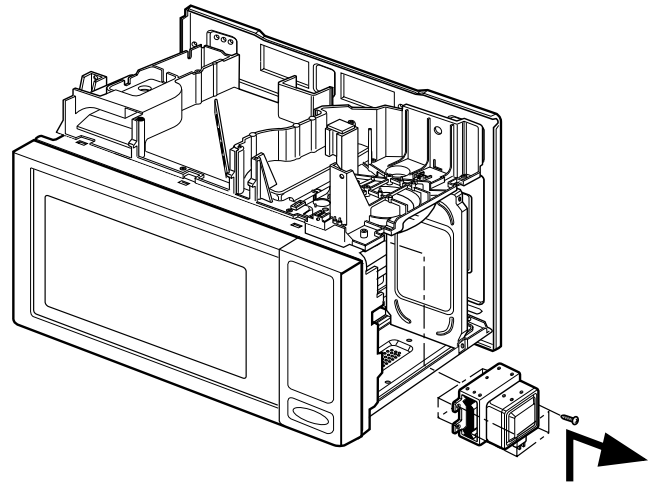

Figure 12
- (1) Disconnect the power supply cord from the wall outlet.
- (2) Remove the vent grille and the out case from unit. (See page 7-6)
- (3) Remove the wires from the filament terminals of the magnetron.
- (4) Remove two or four tap tite screws securing the magnetron to the wave guide.(Figure 12)
- (5) Lift up the magnetron slightly and pull it to the right very carefully.